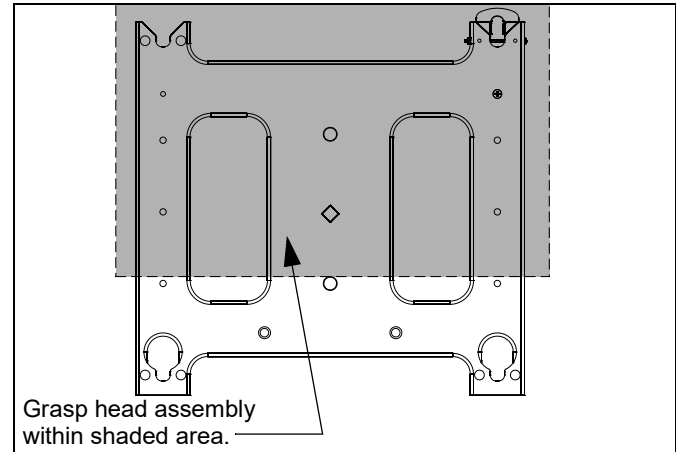

Figure 7
1. Firmly grasp head assembly. (See Figure 7)